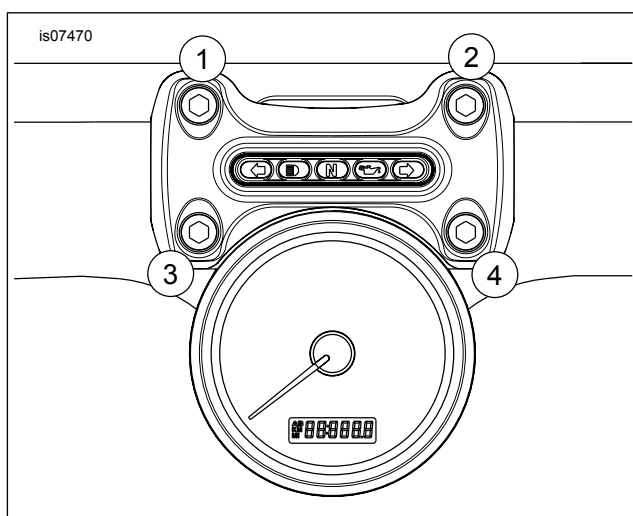

Figure 3. Riser Clamp Torque Sequence
3. Seat the handlebar with the knurls centered on the riser base. Install the riser clamp (3) and clamp fasteners (4), but do not fully tighten at this time.
4. See Figure 3. With the handlebar centered and oriented, tighten the riser clamp fasteners to 16.3–21.7 N·m (12–16 ft-lbs) following the sequence shown.